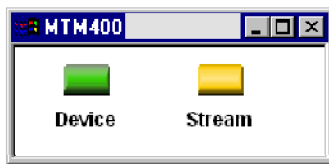

Figure 21: Hotspot view (RUI v2.6.1 and below)
6. After you log in to the monitor, the Hotspot view is displayed. (See Figure 21.) Click **Device** to open the Device view.